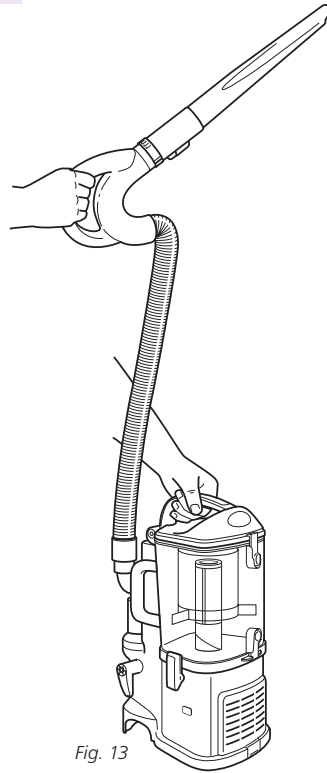

Fig. 13
- 4 Press the On/Off switch to the "I" position to turn the vacuum on for above-floor cleaning and hold the handle in one hand while you carry the detachable canister around the house with the other hand. (Fig. 13)